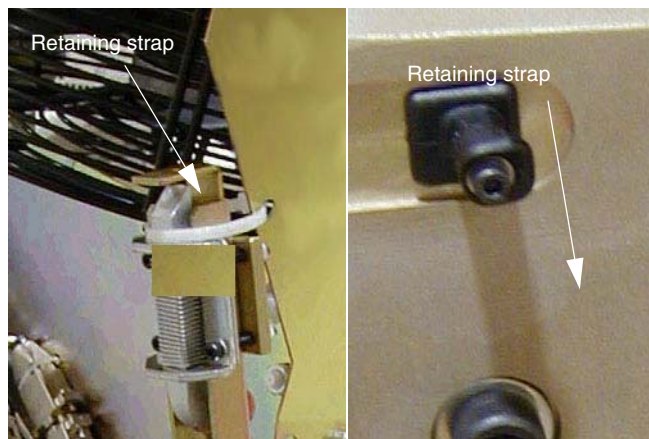

Figure A-18 Service position of upper and lower cantrell brackets.
- a.) Remove upper Cantrell brackets from service position and rotate them into position over their associated retaining pins. See Figure A-18.
- b.) Remove lower cantrell brackets from service position (see Figure A-18), and rotate them into position over their associated retaining pins. Press down firmly on the bracket and snap it into place. See Figure A-20.